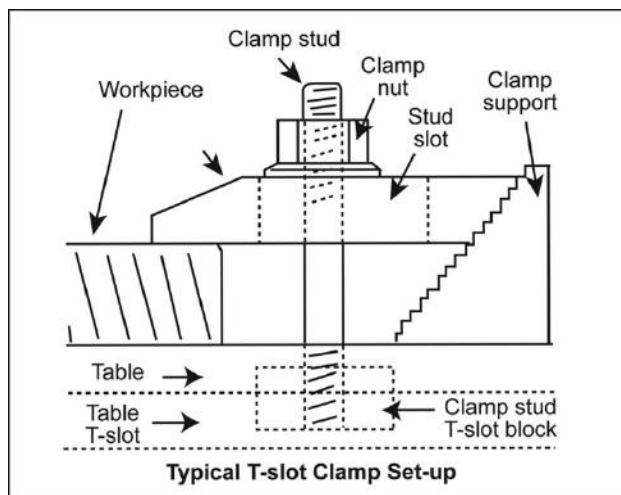

Figure 15
3. Clamp workpiece using T-slot clamps, studs, and step blocks as required (Figure 15).